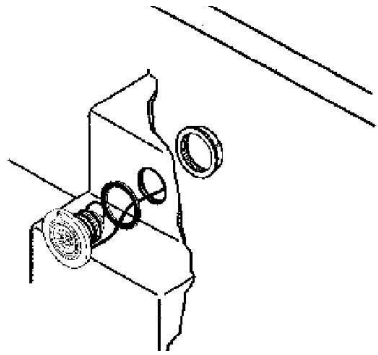

Fig. 4
4. Place the nut of 2" on the back-part of the body of the SAPS. Fixing the nut to the body of the light (Fig. 4).